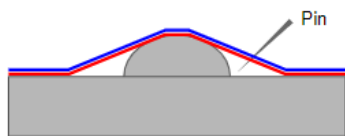

Fig.11
- 2) Collect the bubbles around the rivet without putting the film out of shape. Prick a hole in the vinyl around the rivet and squeeze out any air trapped between the vinyl and the rivet using your finger. *Fig.11*